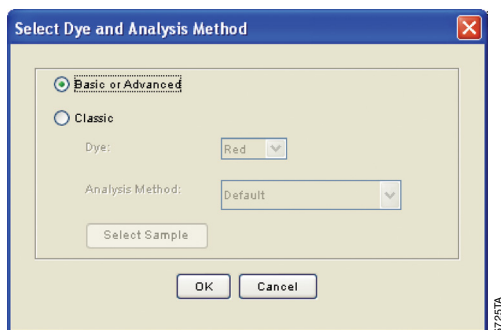

Figure 16. The 'Select Dye and Analysis Method' window.
4. Select **Basic or Advanced** (Figure 16). The type of analysis method selected must match the type of analysis method created earlier. Select **OK**.